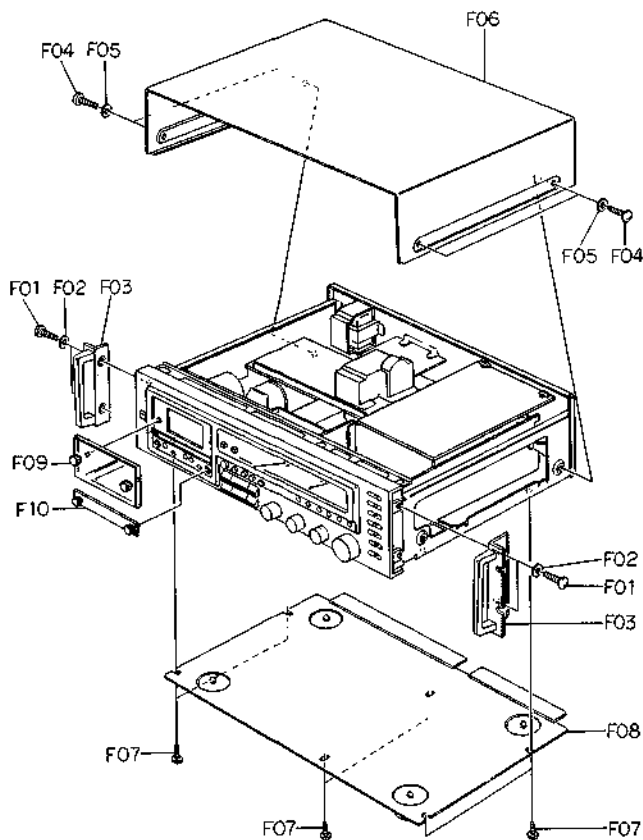

Fig. 2.1
Refer to Fig. 2.1.
- (1) Refer to Fig. 2.1. Remove Top Cover Ass'y and Bottom Cover Ass'y referring to items 2.2 and 2.3.
- (2) Remove F01, then disassemble F02 (Dolby NR P.C.B. Ass'y).
- (3) Remove F03, then turn F04 (Auto Level P.C.B. Ass'y) over as an arrow head.
- (4) Pull out F05 (Volume Knob A), F06 (Volume Knob B) and F07 (Pitch Control Knob).
- (5) Remove F08, F09 and F10, then disassemble F11 (Front Panel Ass'y including 3 connectors).
- (1) Refer to Fig. 2.1. Remove Top Cover Ass'y referring to item 2.2.
- (2) Remove 2 connectors and wires connected by wrapping from F22 (Dolby NR P.C.B. Ass'y).
- (3) Remove F21, then disassemble F22 (Dolby NR P.C.B. Ass'y).
- (2) Remove F01, F02 and F03, then disassemble F04 (Rear Panel Ass'y).
- (2) Remove F05 and F06, then disassemble F07 (Power Transformer).
- (3) Remove F08 and F09, then disassemble F10 (Fuse P.C.B. Ass'y).